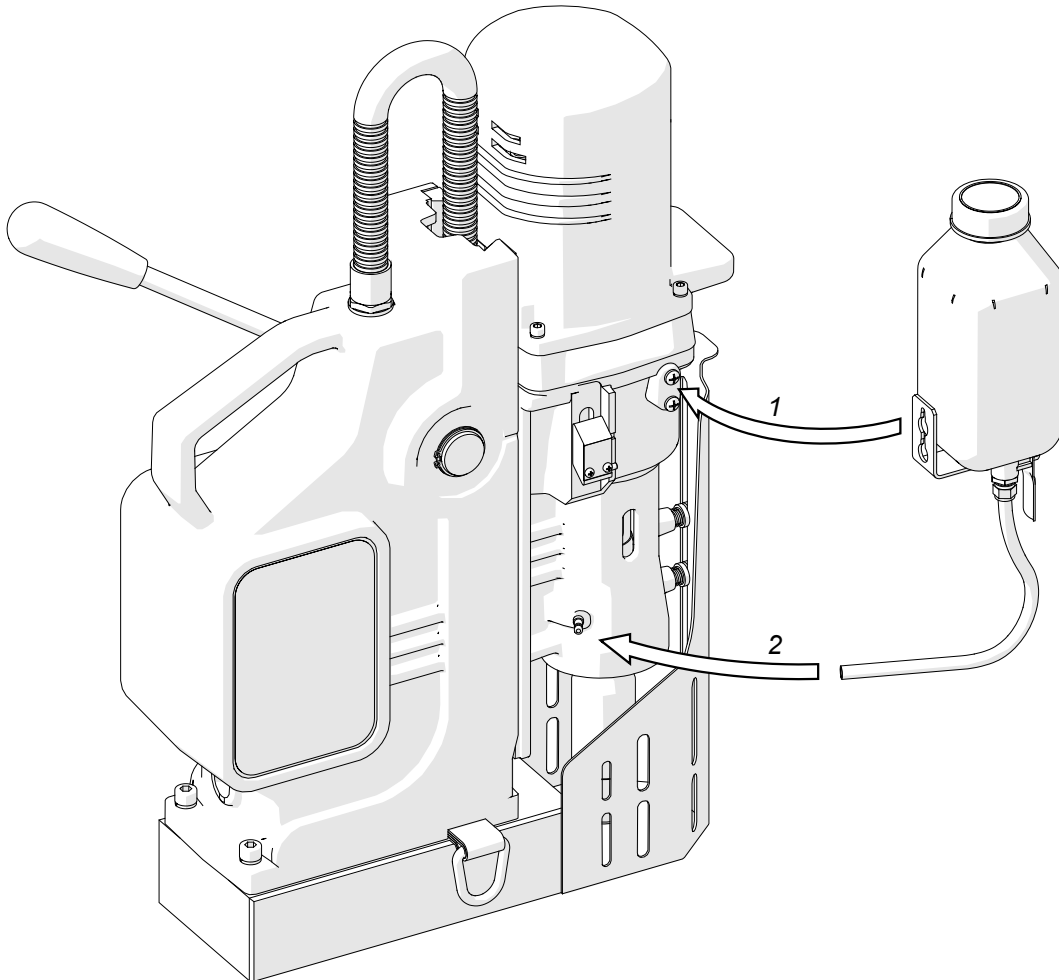

Fig. 8. Installing the cooling system
Hang the cooling system bottle on the screws (1, Fig. 8), and then attach the bottle hose to the hose fitting (2).